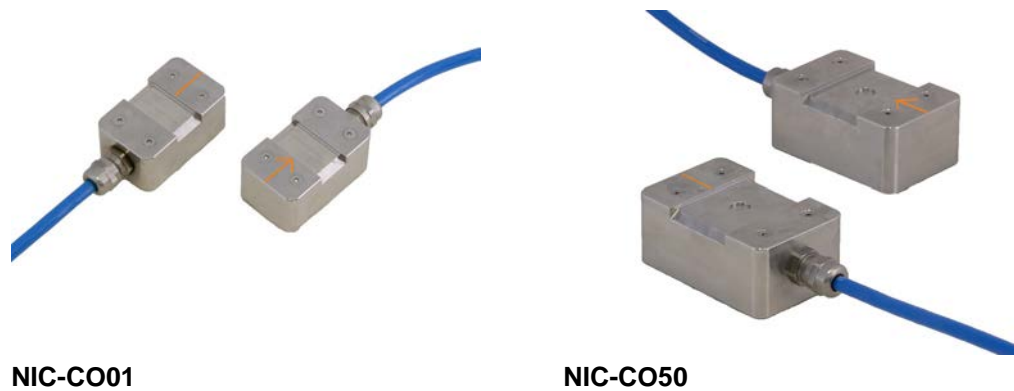

Fig. 10-70 Clamp-on sensor pairs
- the **arrow** engraved on the sensor pair (see Fig. 10-70) points in the direction of flow.